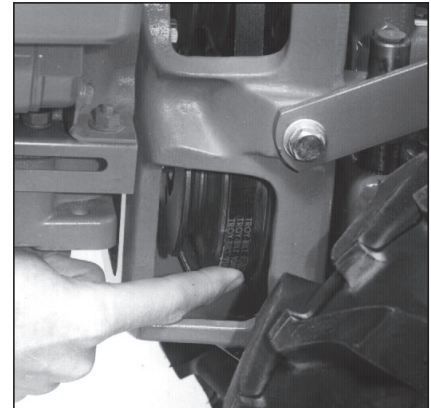

**Figure 4-12: High range to low range. Shows moving belt from top-front groove onto top-rear pulley groove.**
3. Stand on *left side* of tiller. Use your right hand to hold the Wheels/Tines/PTO Drive Lever up into REVERSE position. Use your left hand to move the belt off top-front engine pulley groove to top-rear engine pulley groove (Figure 4-12).